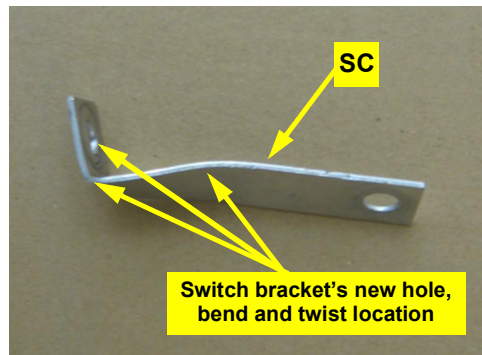

Figure 1b: Drilled, bent and twisted switch bracket
- b. Drill a 11/32" hole in switch bracket **SC** at the opposite end to the pre-drilled switch hole. Put a 90° bend in the bracket near the new hole and a slight twist approximately half way between the bend and the pre-drilled end (Figure 1b).